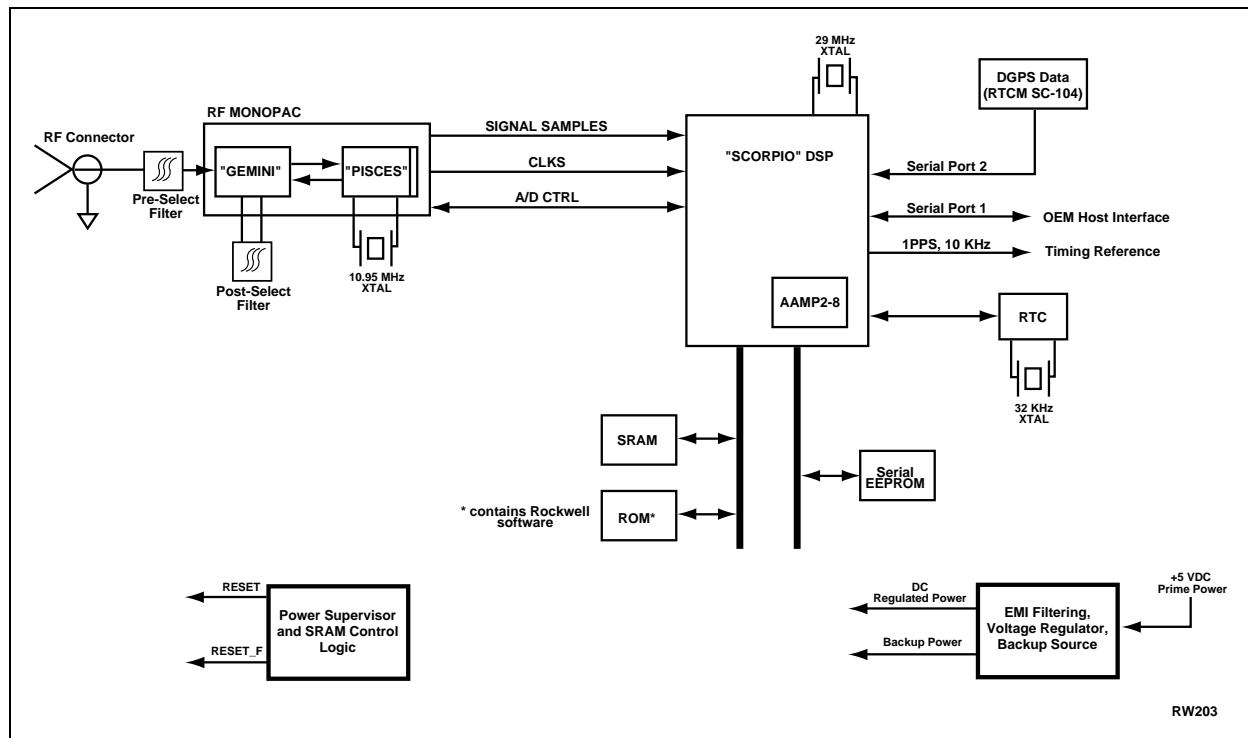

Figure 3. "Jupiter" Receiver Architecture
Receiver Architecture. The functional architecture of the "Jupiter" receiver is shown in Figure 3. The receiver design is based on the Rockwell Zodiac chip set: the "Gemini/Pisces" MonoPac™ and the "Scorpio" DSP, which contain the required GPS functionality. The "Gemini/Pisces" MonoPac™ contains all the RF downconversion and amplification circuitry, and presents the In-Phase (I) and Quadrature-Phase (Q) Intermediate Frequency (IF) sampled data to the "Scorpio" device. The "Scorpio" device contains an integral microprocessor and all the required GPS-specific signal processing hardware. Memory and other external supporting components configure the receiver into a complete navigation system.